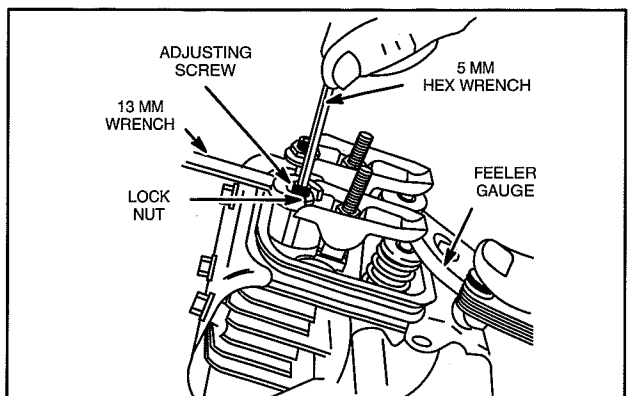

Fig. 26 – Adjust Valve Clearances
- a. Adjust valves and check, Fig. 26.